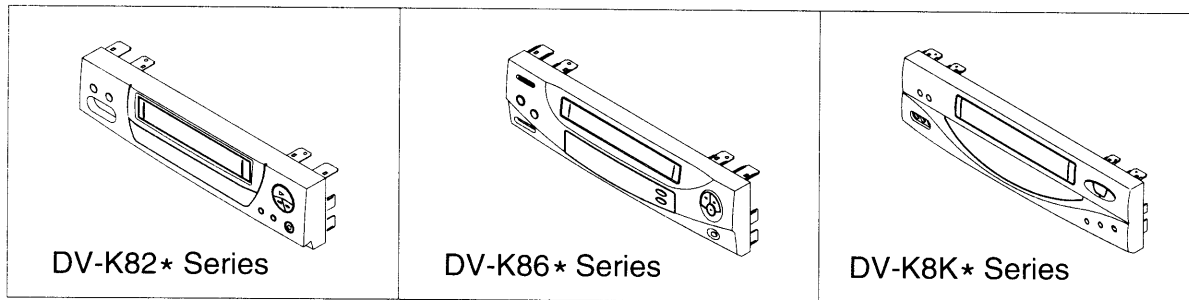

FIG. 2
2. FRONT PANEL REMOVAL (FIG. 2)